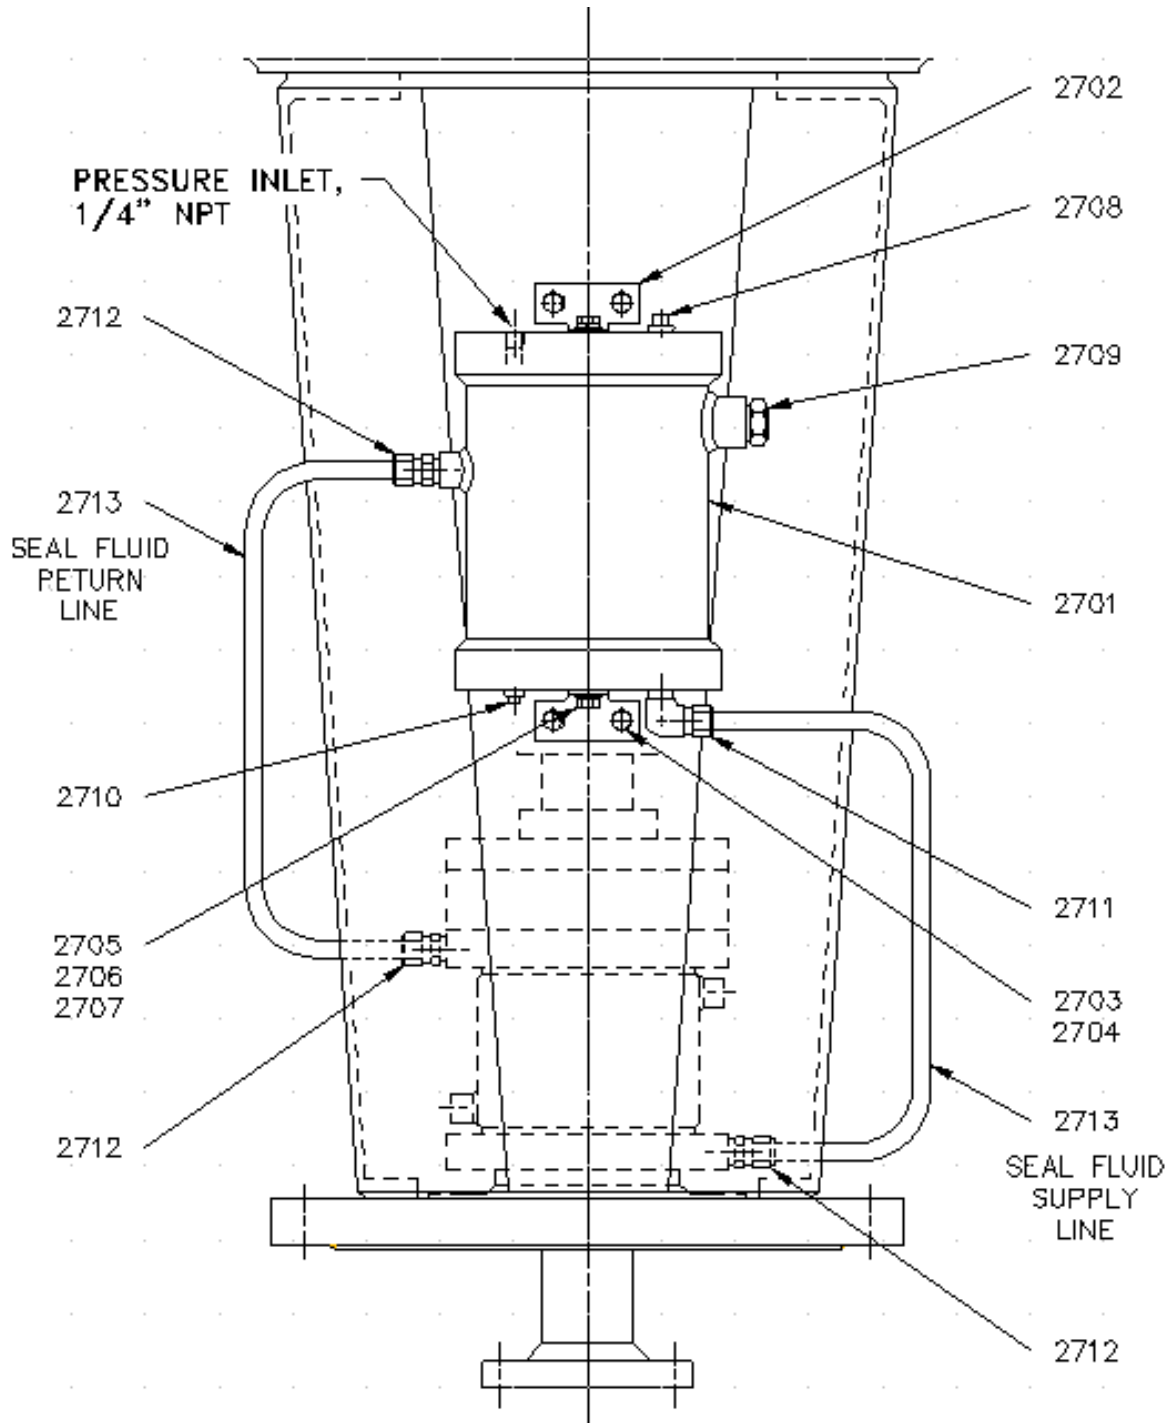

Figure 21. Mechanical Seal (Cartridge Type) Lubricator
1. Assemble the lubricator-mounting bracket [1702] to the mechanical seal lubricator [1701]. Refer to Figure 21, page 52. Install mounting bolts, flatwashers and lockwashers [1705, 1706, 1707]. Torque bolts to the value shown in the APPENDIX, Page 96.